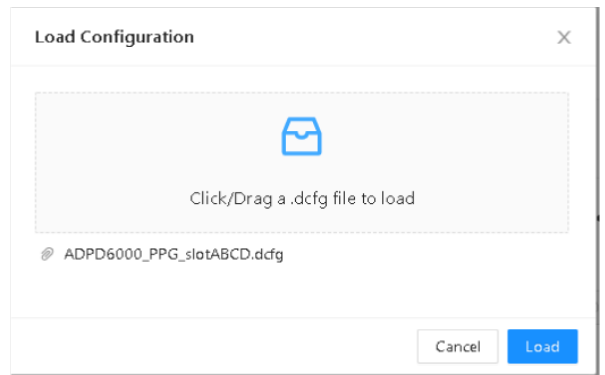

Figure 31. Load Configuration
3. Click **Load** (see Figure 31) to load the configuration file.